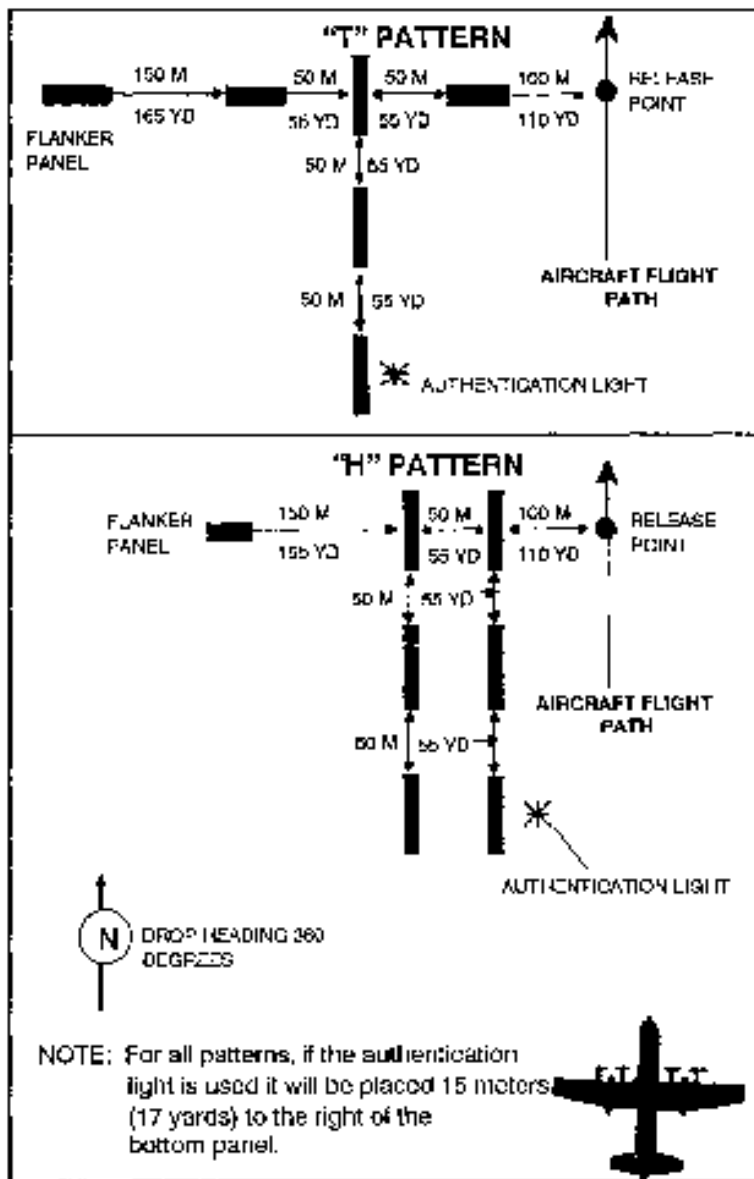

Figure 6-4. Panel emplacement.
a. The DZ will be marked with an inverted "L," "H," or "T" pattern using VS-17 panels. The inverted L consists of 4 panels; the approach panel, the corner panel, the alignment panel, and the flanker panel. The corner panel is located 100 meters to the left (as seen from drop heading) of the release point. (Refer to Figure 6-4, for panel emplacement). All other panels are aligned with and oriented to the corner panel. For establishment of the seven panel "H" and six panel "T" pattern, which are recommended for C-141/C-5 airdrops due to the aircraft side-angle-vision limitations pattern, refer to Figure 6-4.